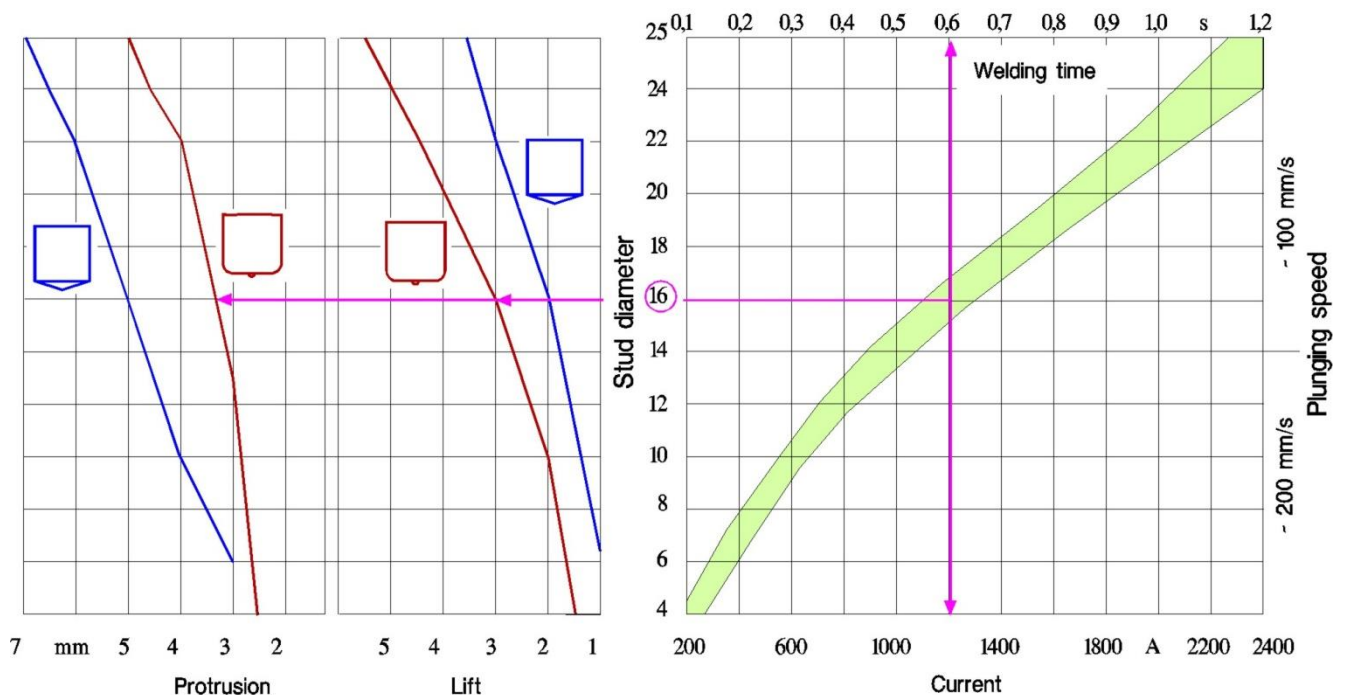
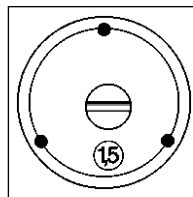

Figure 2: Parameters for current, time, lift, protrusion and damping (example for stud 16 mm diameter with flat tip)
Figure 5: Selecting the lift (except SK 14, SK 14 short und SK 15)
In stud welding, lift and protrusion are important parameters. In most cases they can be selected to fit stud diameters, according to figure 2. The position of the weld or the kind of surface on the workpiece may necessitate some adjustments. In such cases, optimal settings should be obtained through test welds.
The settings given in figure 2 have been tested for welds on **clean metallic surfaces** and standard type studs in **downhand position**. The decisive parameter is the actual diameter at the welding end of the stud, not the nominal diameter. Under different conditions (other welding position, or oily, scaly or primer-coated surfaces) the optimal settings must be determined by test welds. With difficult surfaces, it may be necessary to considerably increase lift and welding time, and to reduce the welding current. When welding in a horizontal position, it is recommended to select higher current, protrusion and plunging speed than the given settings, and at the same time shorter cycles and lift. Please note that at the lower end of the welding range of large appliances it may be necessary to select values higher than those listed in the chart. This is caused by the relatively long phase for building up the current, which means that for a considerable part of the welding cycle the peak current is not yet reached. This must be compensated by lengthening the welding cycle or selecting a higher current.
9. Slide the footpiece with the legs in the damping guides until the correct protrusion is reached, see figure 2. Figure 4 shows a diagram of the supporting device.
10. **Setting of the lift (except SK 14, SK 14 short und SK 15):** Open the rear cap of the gun. Behind it there is an adapter screw for adjusting the lift in steps of 0.5 mm. (figure 5). **Do not set any in-between values!** Select lift settings according to figure 2.
The lift can only be adjusted in 0.5 mm steps. **Do not try to set any intermediate values!** Follow the instructions according to figure 2 when setting the lift.
A frequent fault is a so-called plunging impediment. It occurs whenever the plunging movement of the stud is cut short and the stud comes to a halt above the welding pool. (see chart 2 figure 4). In case of only a minor impediment the plunging of the stud may not be stopped, but delayed. In this case a „cold weld“ with an incomplete connection may result, without any faults showing on the outside. (chart 2 figure 5). Therefore the final assessment of a weld should never be made on the basis of visual tests alone, without mechanical tests being carried out as well.